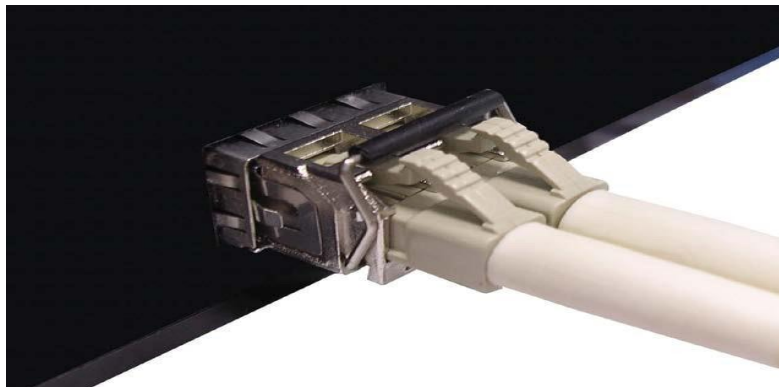

Figure 2.11: LC Connector to the Transceiver
Step 2 Insert the fiber cable of the LC connector into the transceiver as shown below in Figure 2.11.